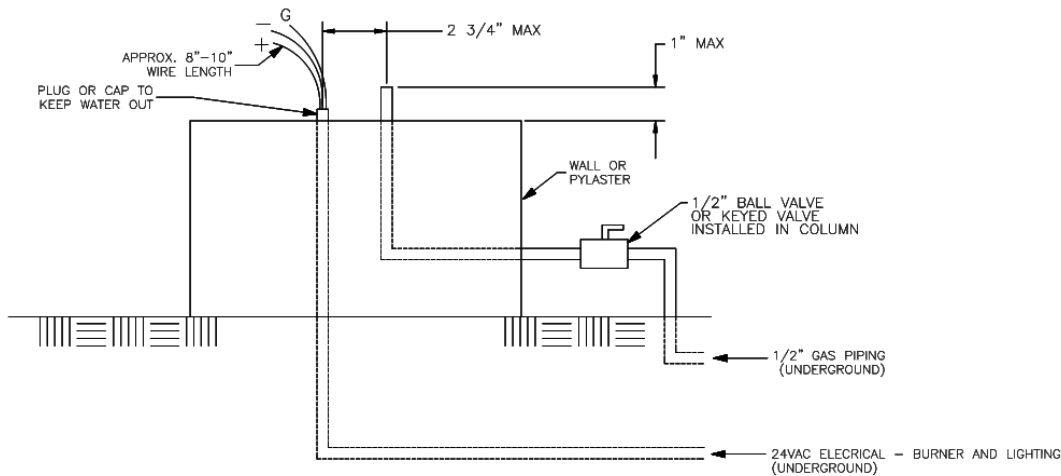

Figure 4: Piping
3. Most installations will require 3/8"-1/2" approved gas line to each candelere location as shown in Figure 4. Required pipe size will be determined by the length of the run and should be determined by a gas expert.
Note: The gas and electrical connection at each burner must be located at the center of each burner. The connections must be installed as shown in Figure 4.